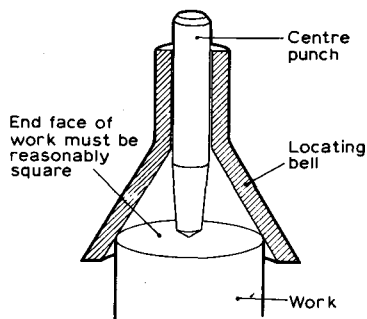

Fig. 4.192
(2) Bell centre punch method, Fig. 4.192. In this method the cone of the bell is placed over the end of the work and the centre punch is then given a light tap. The cone automatically positions the centre punch.
(3) Marking out method.